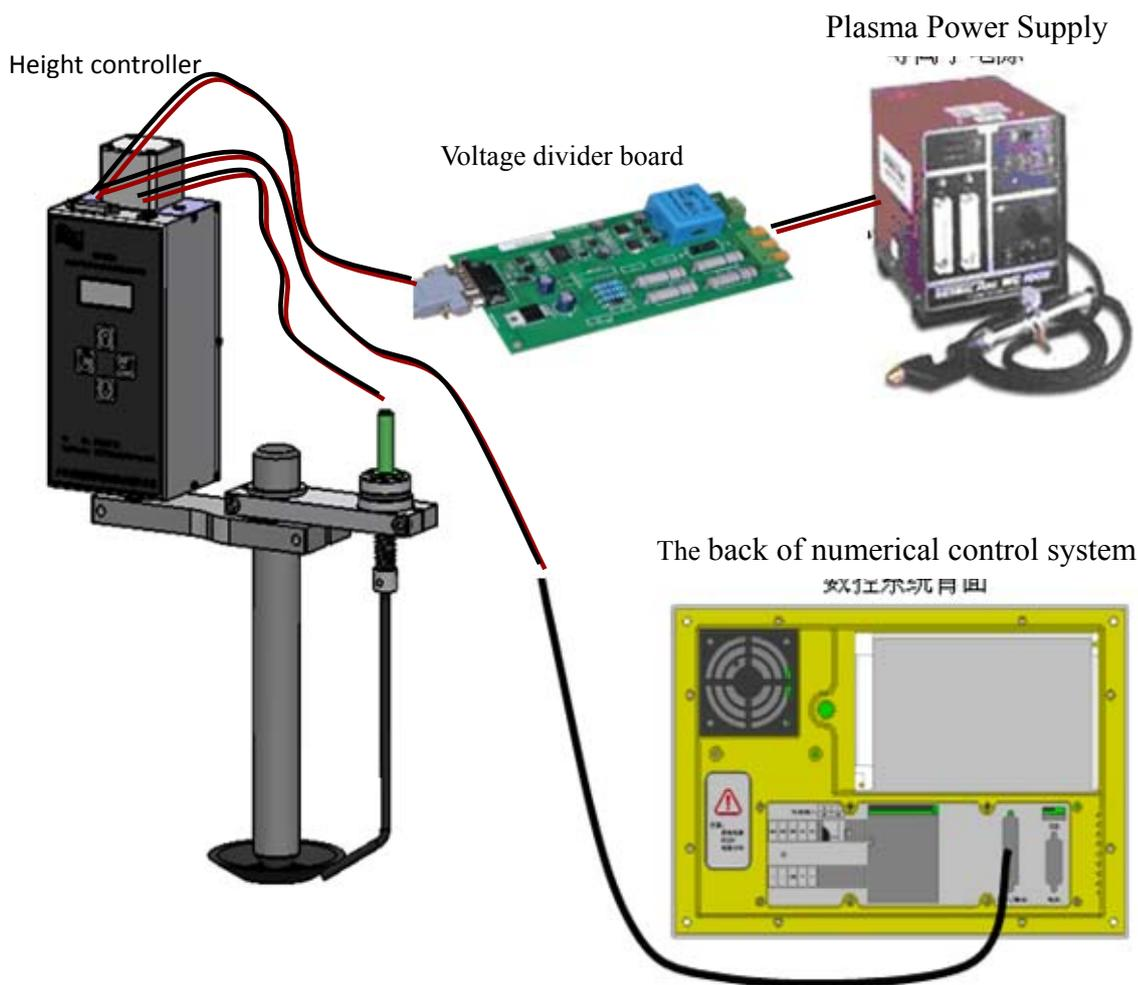

Figure 3-8 Electrical installation diagram of arc voltage controller
- The electrical installation of arc voltage detection-type height controller is shown in Figure 3-8.